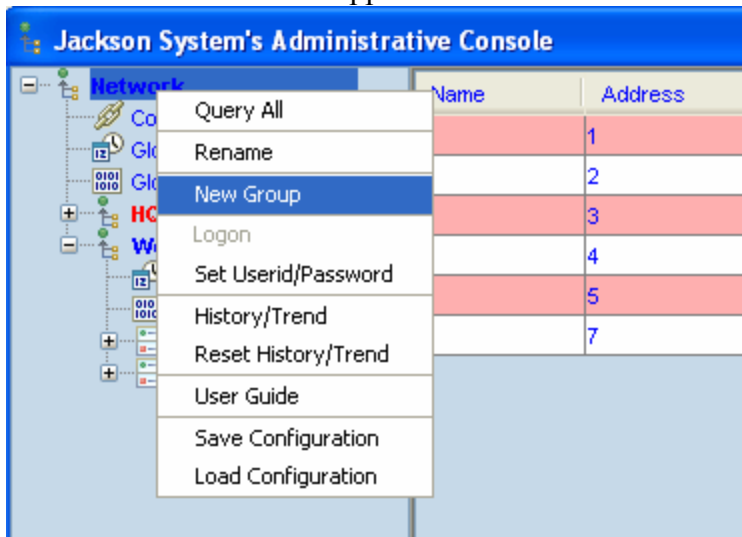

Figure 31 – Creating a Logical Group
- i. Create a group by right mouse clicking on the Root Node (refer to Figure 31)